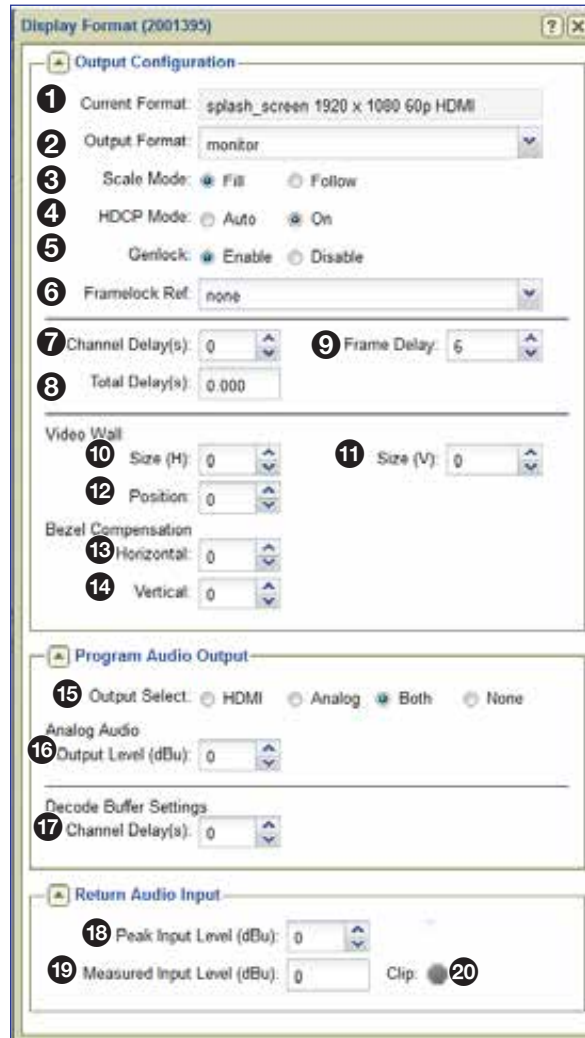

Figure 51. VND 250 Display Format Dialog Box (Decoder)
- **Current Format** (see figure 51, ❶)
- **Output Format** (❷)
- ④ **HDCP Mode** — The HDCP mode control (see figure 51 on the previous page) sets the encryption negotiation method between the decoder and an HDCP compliant display.
- ⑤ **Genlock** — Enables the synchronization of the output to a reference waveform. The VND 250 uses TTL level signaling which is not compatible with normal genlock sources.
- ⑥ **Framelock Ref** — This drop-down control is used with the genlock control described above. It defines which VND 250 device is used as the frame reference in a genlock group. When such a group is formed, a network-based protocol permits the chosen VND 250 to coordinate frame timing so that all decoders are showing frames captured at the same time.
- ⑦ **Channel Delay(s)** — The channel delay is unique to each channel of video, audio, data or whiteboard data and is set in seconds. In normal operation on a LAN, Channel Delay is set to 0.0.
- ⑧ **Total Delay(s)** — The delay time between the data being input to the encoder and output on the decoder is controlled by setting the Channel Delay(s) and the Frame Delay. The Total Delay(s) time shown in this read-only field is the sum of the two values.
The **Video Wall** configuration settings (see figure 51 on page 66) allow a video stream from a single source to split over several decoders, each attached to one monitor of a videowall layout. The number of monitors that make up the full size of the wall and the selected decoders position in the wall must be configured for each decoder.
In Videowall mode (see figure 51), the bezel compensation settings correct image geometry when the decoded image is spread across displays that have a mullion. The settings in the horizontal and the vertical adjustments are applied equally to both edges.
Program Audio Output panel (see figure 51 on page 66)